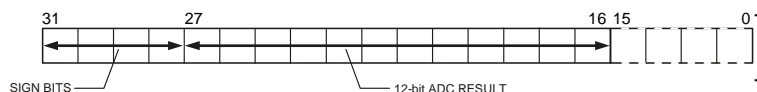

Figure 10: ADC Result Format
The top 4 bits are the sign bits and the 12-bit result is placed from bit 16 to 27 as shown in Figure 10. Again, it should be noted that in fully differential mode, the result is represented in two's complement format, and in pseudo differential and single-ended mode, the result is represented in straight binary format.
- **ADCDAT**: ADC Data Result Register, hold the 12-bit ADC result as shown Figure 10